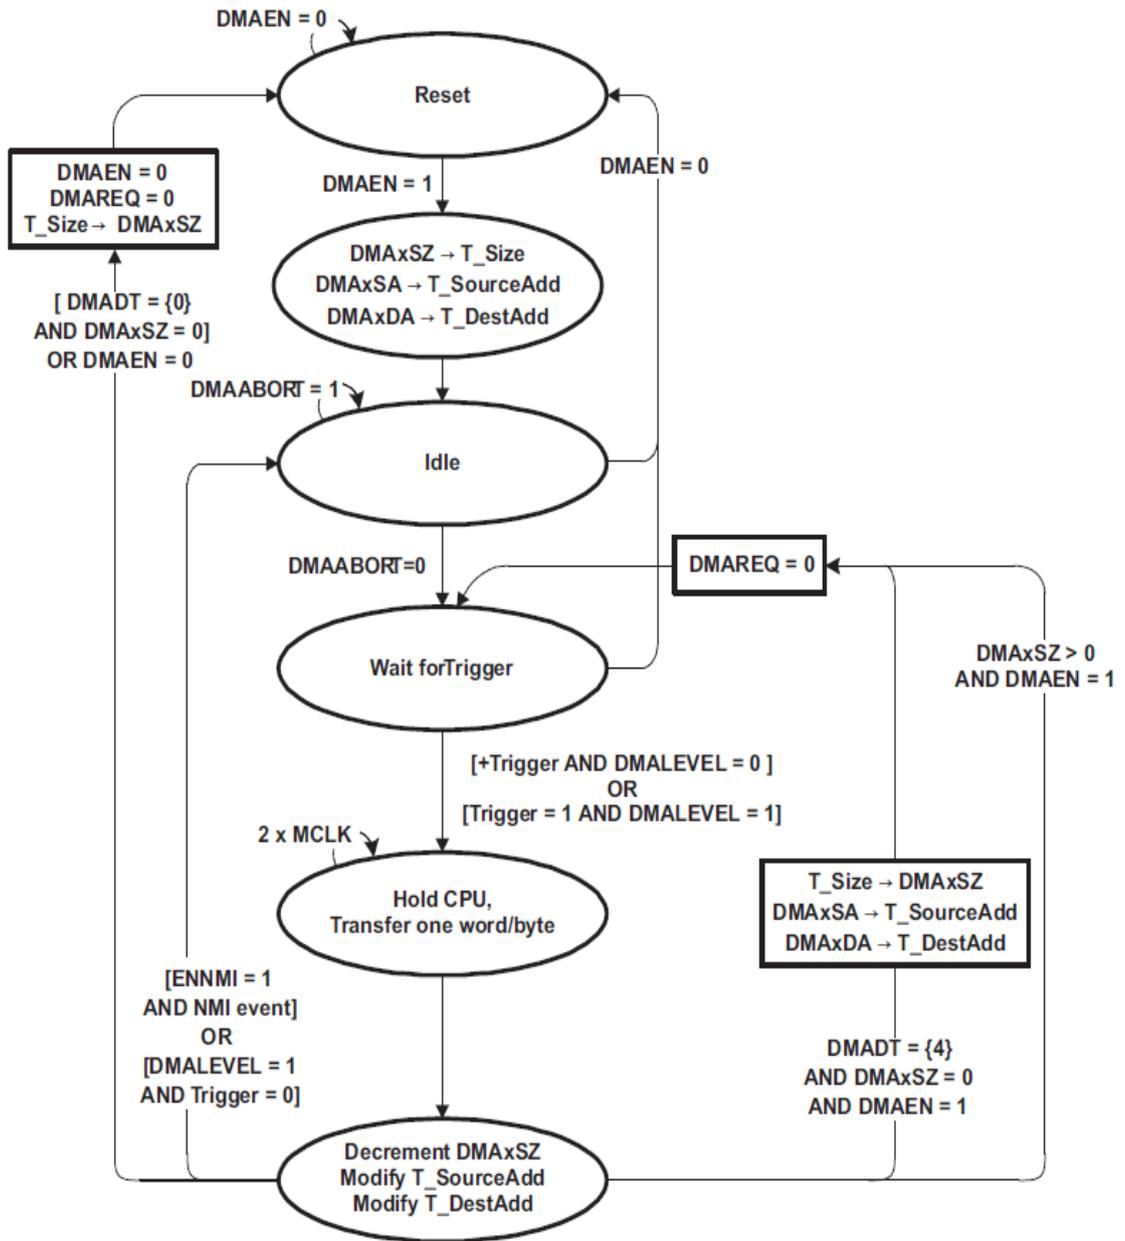

Figure 1-3. DMA Single Transfer State Diagram
- In single transfer mode, each byte/word transfer requires a separate trigger. The single transfer state diagram is shown in Figure 1-3.